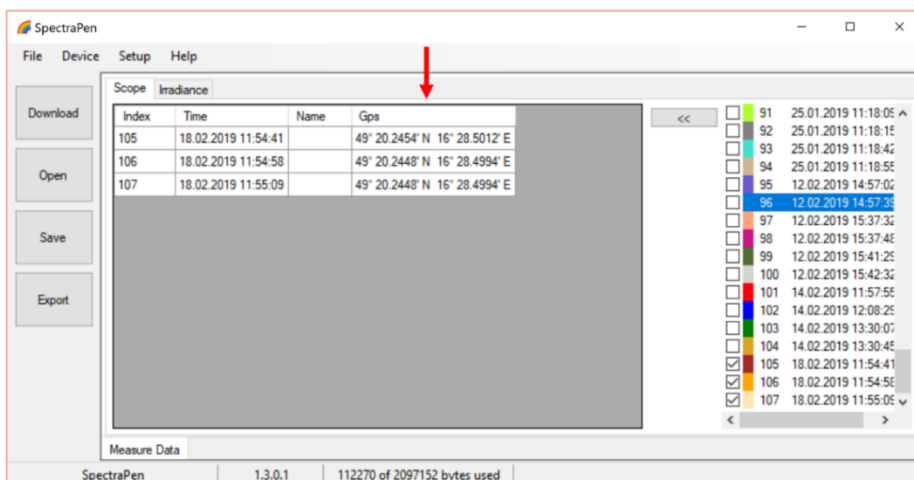

Fig. 27 Data tagged with GPS coordinates.
4. Connect the SpectraPen to the computer and in the SpectraPen software download the measured data. Example of data tagged with GPS coordinates is shown in Fig. 27.